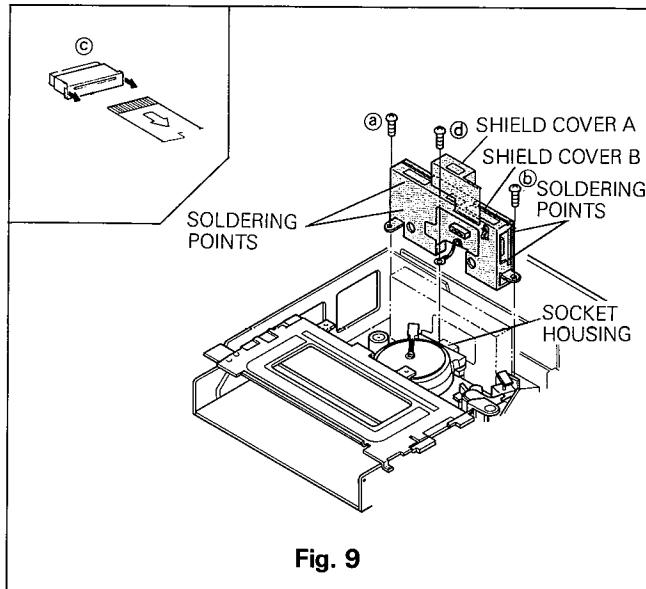

Fig. 9
- B. Disconnect the ribbon cable by gently lifting cover C on the socket housing as shown in Fig. 9.
- C. Remove three screws ④, ⑤ and ⑥ retaining the wire and the PCB-head amp as shown in Fig. 9.
- E. To service the component side unsolder the soldering points of the shield case to remove it as shown in Fig. 9.